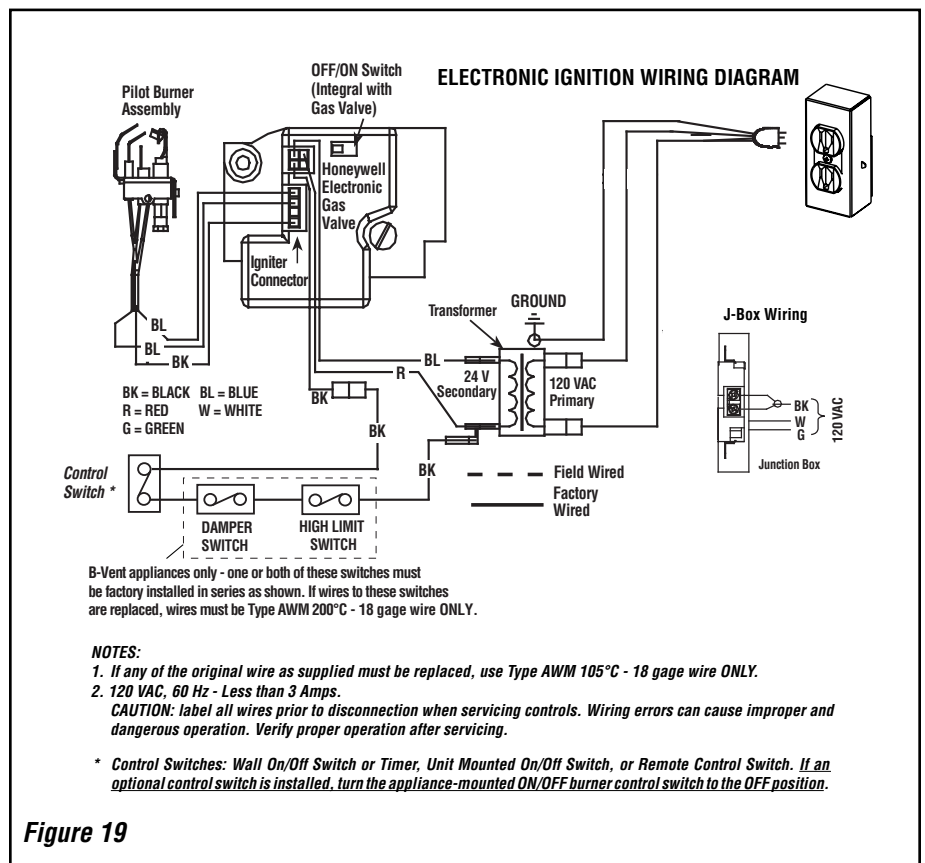

Figure 19
B. Electronic Wiring (See Figure 19)
6. Install the snap bushing (provided in kit) into the selected cabinet knockout opening in side cabinets (see **Figures 11, 12 and 18**). The snap bushing provides protection for the wires (see note below) passing through side cabinet going to an optional burner control switch wire in the burner control switch to the low voltage circuit as shown in **Figure 19**.
Important Note: The gas valve OFF/ON switch is shown in **Figure 19**. It is integral with the gas valve and should be set to the **ON** position.